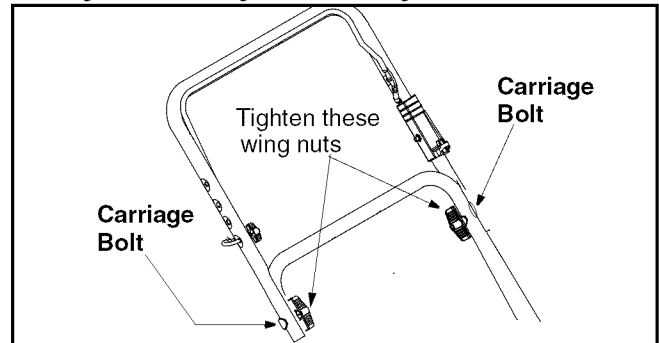

Figure 2
- Make sure that carriage bolt through the upper and lower handles on each side is properly seated. Tighten the wing nuts. See Figure 2.